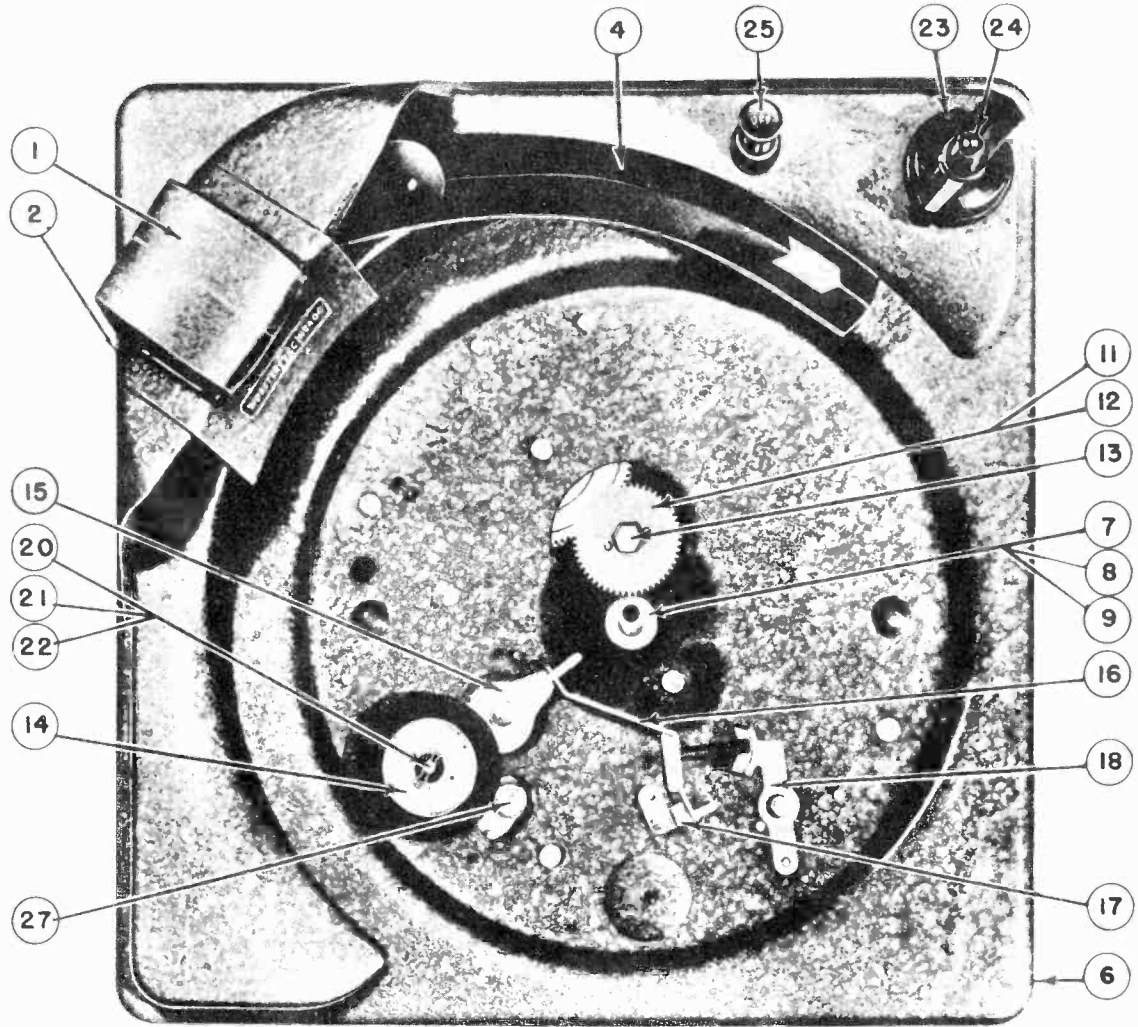

FIG. 4 - PARTS LOCATION - TOP VIEW
Do not permit any oil or grease to get on the rubber idler drive wheel or the Motor Pulley (Illus. 14 and 27, Fig. 4), on turntable drive rim or on the automatic trip arm clutch. Any oil or grease on these points should be removed using Carbon Tetrachloride.
- 3 - Ball Bearing Assembly (Illus. 8 Fig. 4).
- 4 - Idler Wheel Felt (Illus. 21 Fig. 4).
- 3 - Teeth of Large and Small Idler Gears (Illus. 11-12 Fig. 4).